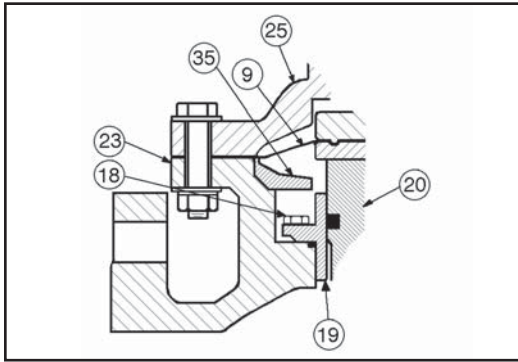
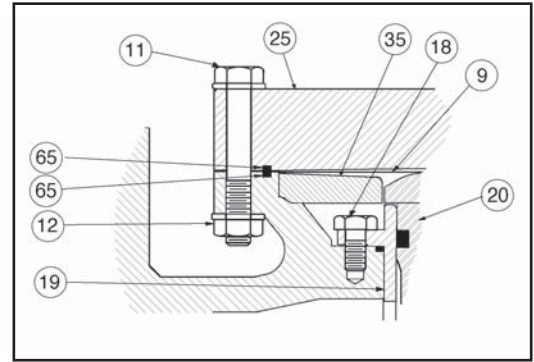
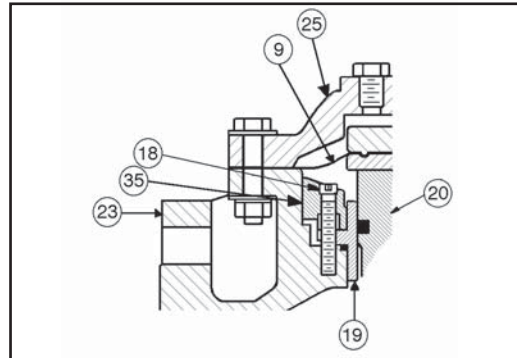

Figure 7: Opt-81 — Composition Diaphragm Construction, 2" and Smaller
Figure 8: Opt-81 — Metal Diaphragm Construction, 2" and Smaller
Figure 9: Opt-81 — Composition Diaphragm, 2-1/2" – 4"
1. A supported diaphragm (9) construction is designated as Opt-81 High Inlet Pressure. Both upwards and downwards directions are protected against pressure reversal; i.e. pressure on one side of diaphragm (9) with no pressure on other side of diaphragm (9).
2. Body Sizes 2" and Smaller; Composition and Metal Diaphragm. (See Figure 7.)
- a. Body (23) is specially machined with a shelf to capture a lower diaphragm support ring (35).
- b. Cover dome (25) is specially machined to provide a surface for the upper diaphragm (9) support. Lower diaphragm support ring (35) is captured by its location. Upon removal of cover dome (25) and diaphragm (9), the lower diaphragm support ring (35) can be lifted upwards and out of the body (23) cavity.
3. Body Sizes 2" and Smaller; Metal Diaphragm. (See Figure 8.)
- a. Body (23) is specially machined with a shelf to capture a lower diaphragm support ring (35) and a groove for lower o-ring diaphragm seal (65).
- b. Cover dome (25) is specially machined to provide a surface for the upper diaphragm (9) support and a groove for upper o-ring diaphragm seal (65). Lower diaphragm support ring (35) is captured by its location. Upon removal of cover dome (25) and diaphragm (9), the lower diaphragm support ring (35) can be lifted upwards and out of the body (23) cavity.
- c. Dual o-ring seals (65) replace the diaphragm gasket (37) normally supplied with standard metal diaphragm construction; i.e. non-Opt-81.
4. Body Sizes 2-1/2" and Larger; Composition Diaphragm. (See Figure 9.)
- a. Body (23) is a standard body (23).
- b. Cover dome (25) is specially machined to provide a surface for the upper diaphragm (9) support.